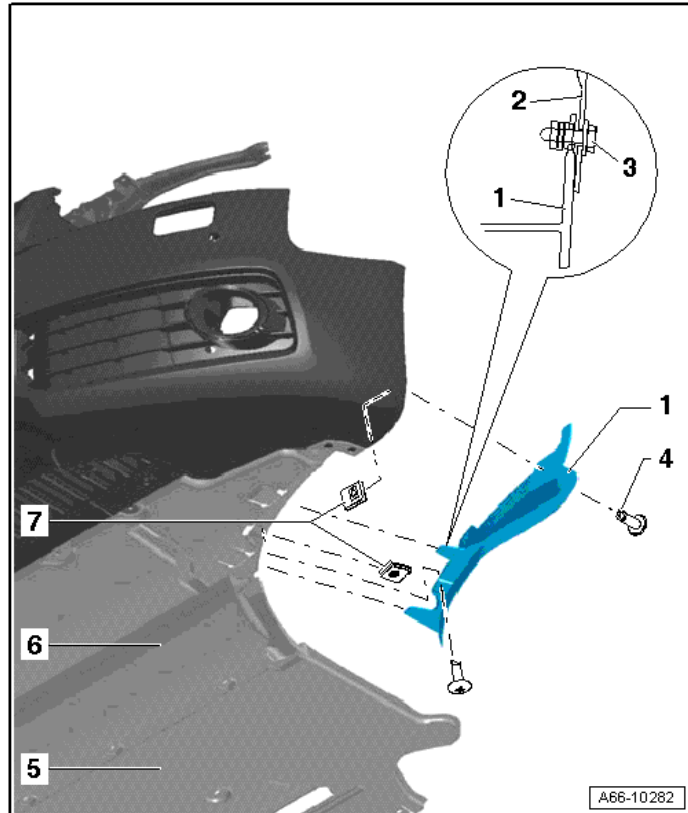

Figure 1. The wheel spoiler (1).
1. Remove wheel spoiler (Figure 1, 1).